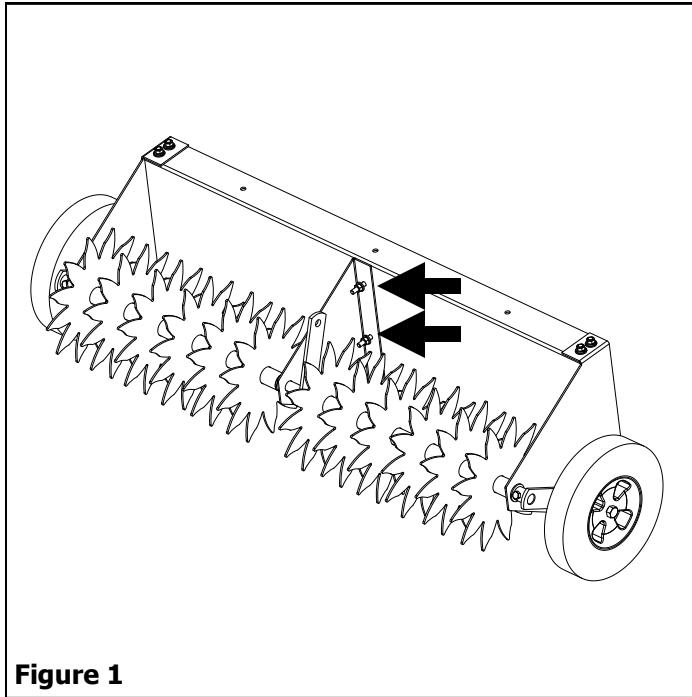

Figure 1
1. Position base assembly on back side. See figure 1.
2. Remove 5/16" hex head nuts and 5/16" lock washers from base assembly. See figure 1.